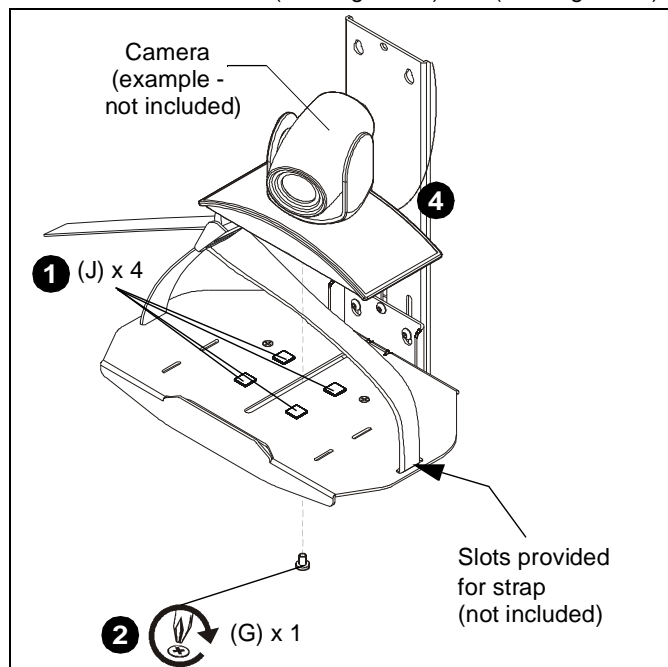
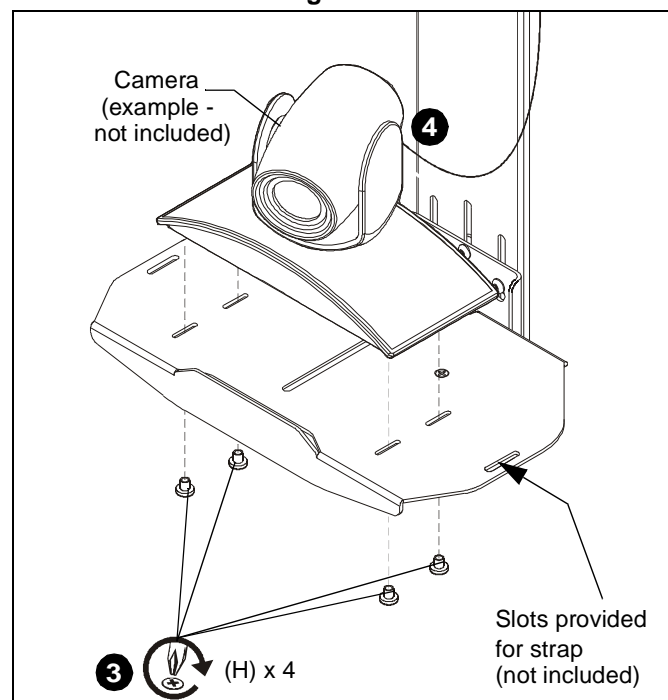

Figure 10
Figure 11
NOTE: OPTIONAL: Slots are provided in shelf for strap (not included) to hold camera in place. (See Figure 10)
1. Use up to eight adhesive hook and loop squares (J) to secure camera to shelf. Attach adhesive squares to bottom of camera first and then attach corresponding squares to shelf when the exact mounting location has been determined. (See Figure 10)
2. (Single Screw option) Install 1/4-20 x 3/8" Phillips pan machine screw (G) through mounting slot on shelf and into hole on bottom of camera. (See Figure 10)
3. (Multiple screw option) Install four #4-48 x 1/4" Phillips pan machine screws (H) through outside mounting slots and into holes on bottom of camera. (See Figure 11)
4. Route cable from camera towards back of shelf and up behind the FCA870. (See Figure 10) and (See Figure 11)